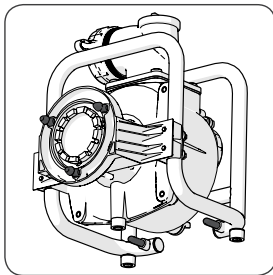

Fig 8 (3 locating pins & 2 stabilising pins highlighted)
- Keep the 3 locating pins and 2 stabilising pins clean and occasionally lightly spray with a silicone oil based spray. **(Fig. 8)**